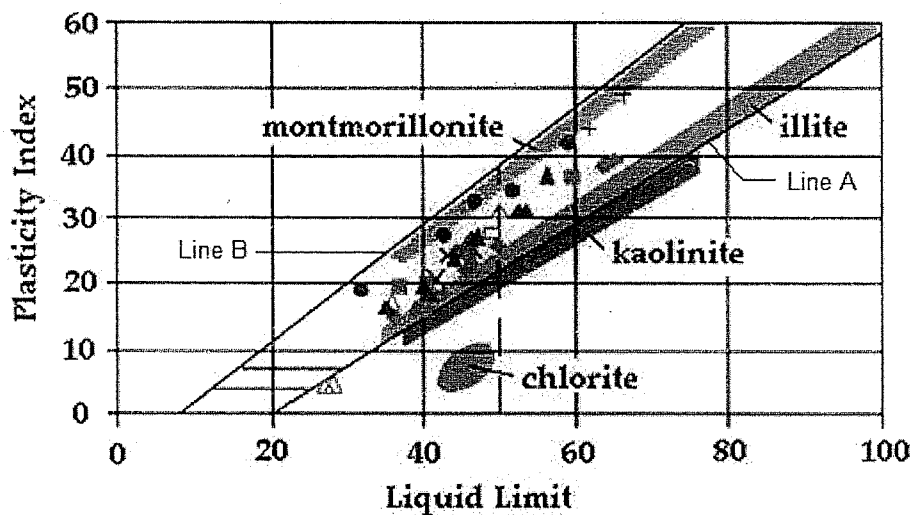

Fig. 1
1. Fig. 1 shows how various clay mineral types plot on the Plasticity Chart.
- C Discuss what lines A and B (refer Fig. 1) represent. (4 points)
- D For a given mineral type, Fig. 1 shows that the Plasticity Index tends to vary linearly with Liquid Limit. Explain why this is so. (4 points)